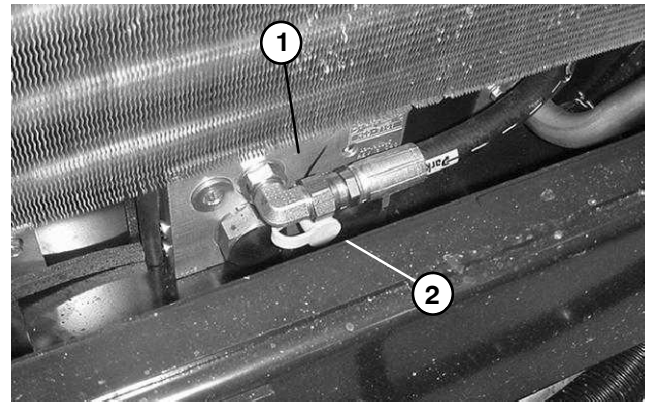

Figure 40
3. Connect a 1000 PSI gauge to test port on 2WD/4WD control manifold under radiator (Fig. 40).